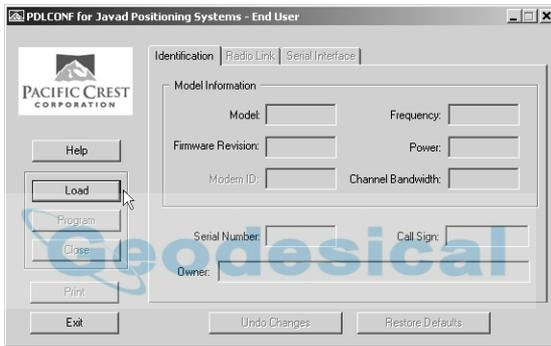

Figure 2-28. Click Load
9. Click **Load** to connect to the radio (Figure 2-28).